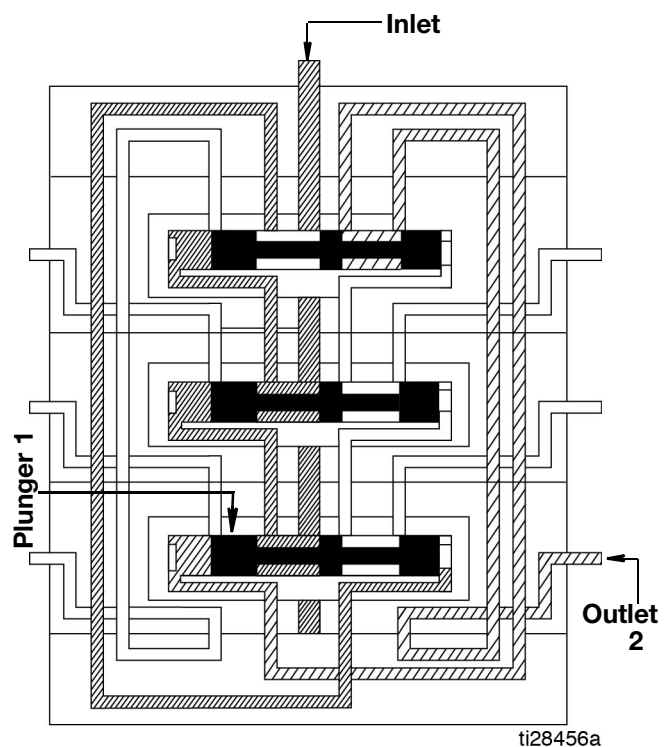

FIG. 13
2. Plunger 1 opens, delivering lubricant to Outlet 2 (FIG. 13).